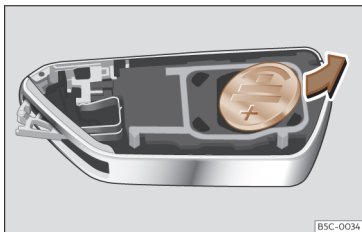

Fig. 71 Vehicle key: removing the battery.
- Remove the battery from the compartment with a suitable fine object >>> Fig. 71.
- Insert the new battery and press it into the battery compartment >>> ③.